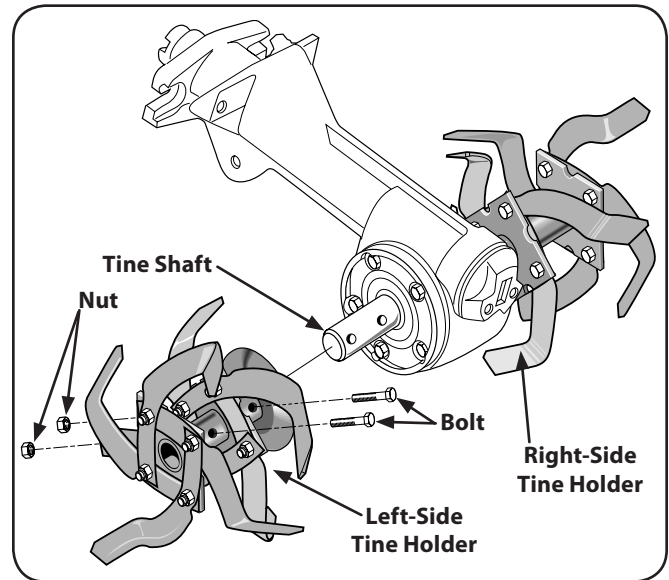

Figure 7-9
5. Use two  $\frac{9}{16}$ " wrenches to remove the two bolts and nuts securing the tine to the tine holder plate. See Fig. 7-9. Use penetrating oil on the hardware if it is rusted or hard to remove.
3. Remove the two bolts and nuts securing each holder. See Fig. 7-9.